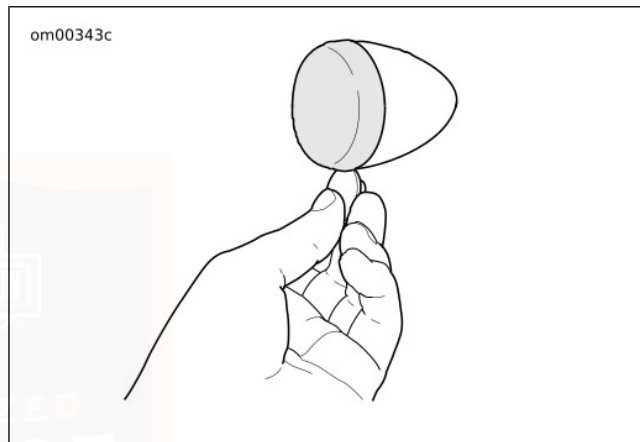

Figure 99. Remove Lens
1. See Figure 99. Insert coin in notch. Carefully twist until the lens cap pops out of the lamp housing.